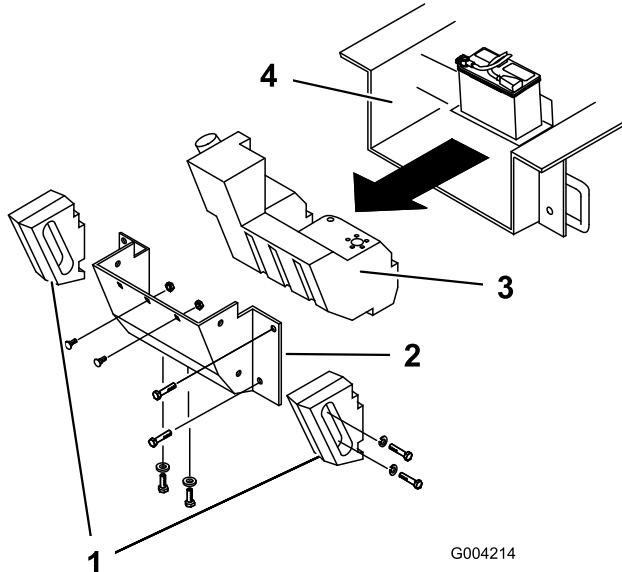

Figure 54
Over time, the chassis under the engine collects dirt and debris that must be removed. Using a flashlight, open the hood and inspect the area under the engine on a regular basis. When the debris is 1 to 2 inches deep, complete the following procedure (refer to Figure 54 throughout this procedure):
4. Remove the bolts, washers, and lock washers securing the two side weights, removing the weights (Figure 54).
7. Remove the six nuts and bolts securing the rear panel, removing the panel (Figure 54).
10. Slide the fuel tank to the rear (Figure 54).
16. Slide the fuel tank part way into the chassis (Figure 54).
21. Replace the rear panel and secure it with the six bolts and nuts removed previously (Figure 54).
23. Install the side weights with the bolts, washers, and lock washers removed previously (Figure 54).